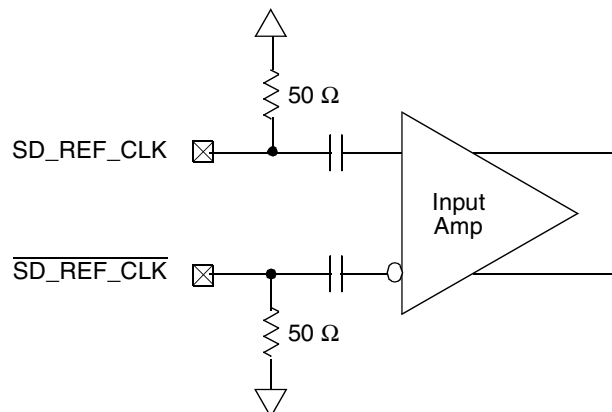

Figure 16. Receiver of SerDes Reference Clocks
Figure 16 shows a receiver reference diagram of the SerDes reference clocks.
- The SD\_REF\_CLK and  $\overline{\text{SD\_REF\_CLK}}$  are internally AC-coupled differential inputs as shown in Figure 16. Each differential clock input (SD\_REF\_CLK or  $\overline{\text{SD\_REF\_CLK}}$ ) has a 50- $\Omega$  termination to XCOREVSS followed by on-chip AC-coupling.